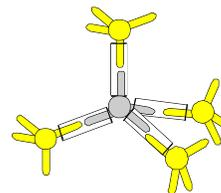

Fig. 8 Cation C.N. 4.
- Surround one zinc with four sulfides to form a separate model to show the cation coordination number of four. (Fig. 8)